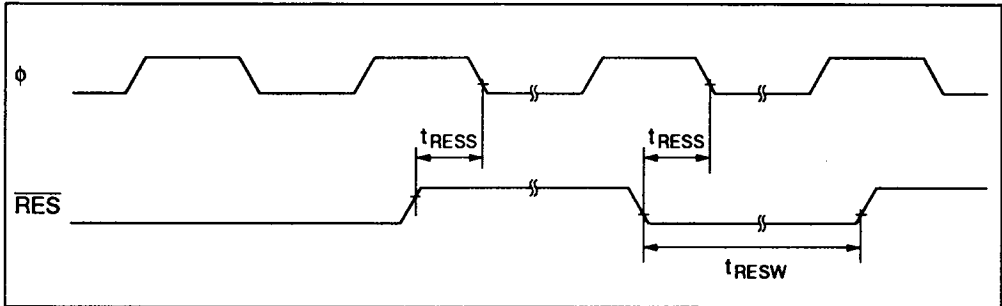

Figure 21-4 Reset Input Timing
21.3.1 Control Signal Timing	Figures 21-4 and 21-5